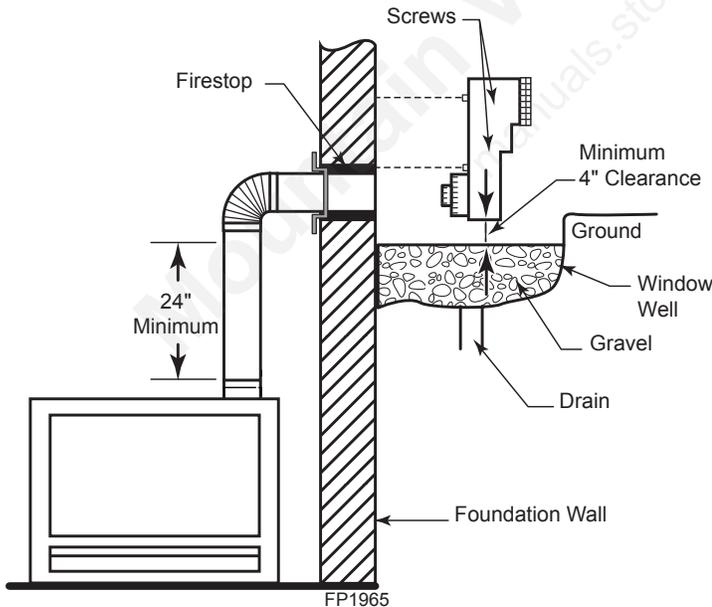

Figure 29 - Below Grade Installation
2. Remove soil to a depth of approximately 16" below base of snorkel. Install drain pipe. Install window well (not supplied). Refill hole with 12" of coarse gravel leaving a clearance of approximately 4" below snorkel. Figure 29
6. Level the soil so as to maintain a 4" clearance below snorkel. Figure 29
If the foundation is recessed, use recess brackets (not supplied) for securing lower portion of the snorkel. Fasten brackets to wall first, then secure to snorkel with self drilling #8 x 1/2" sheet metal screws. It will be necessary to extend vent pipes out as far as the protruding wall face. Figure 29